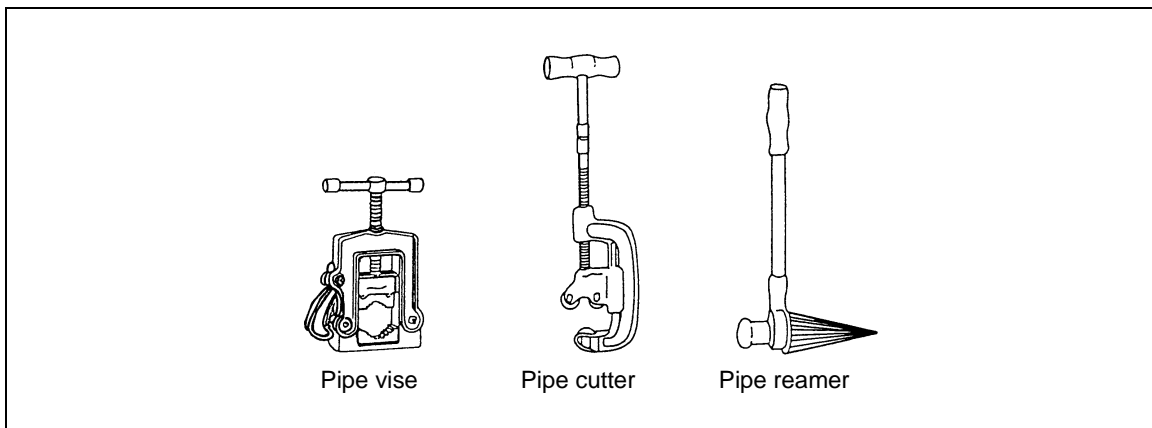
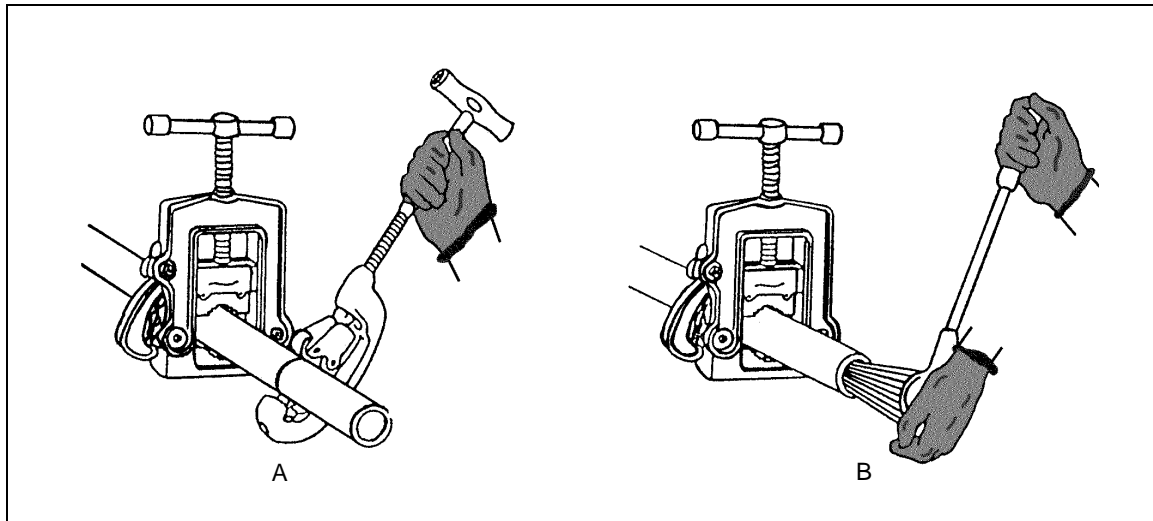

Figure 6-26. Steel-Pipe Tools
Figure 6-27. Cutting and Reaming Steel Pipe
6-57. Steel pipe is cut and reamed using a vise, pipe cutter, and reamer (Figure 6-26). To avoid pipe waste, use Figure 6-27, page 24, and the following steps:
- Step 4.** Place the cutter around the pipe with the cutting wheel exactly on the mark. The rollers will ensure a straight cut (*Figure 6-27, A*). If using a three-wheel cutter, place the cutting wheel of the movable jaw on the mark; ensure that all three wheels are at right angles to the centerline of the pipe.
- Step 8.** Push the reamer into the pipe. Turn the reamer clockwise in short, even strokes, while keeping steady pressure against the pipe (see *Figure 6-27, B*) until the inside burrs are removed.